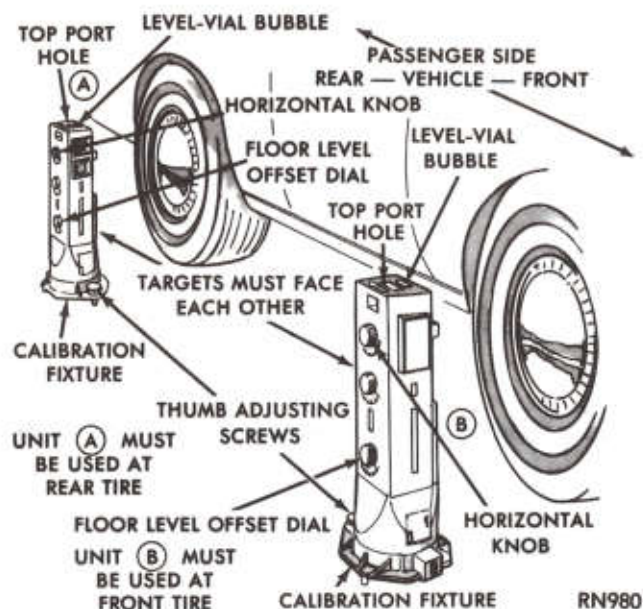

Fig. 1—Determining Floor Slope
- (1) Attach one calibration fixture to each aimer. Fixtures will easily snap into position on aimer when properly positioned (Fig. 1).
(2) Place aimers at centerline of each wheel on one side of vehicle (Fig. 1). Unit A must be placed at rear wheel with target facing forward. Unit B must be placed at front wheel with target facing rearward.
(3) Adjust thumb adjusting screw on each calibration fixture by turning either clockwise or counter-clockwise until level vial bubble registers in a centered, level position (Fig. 1).